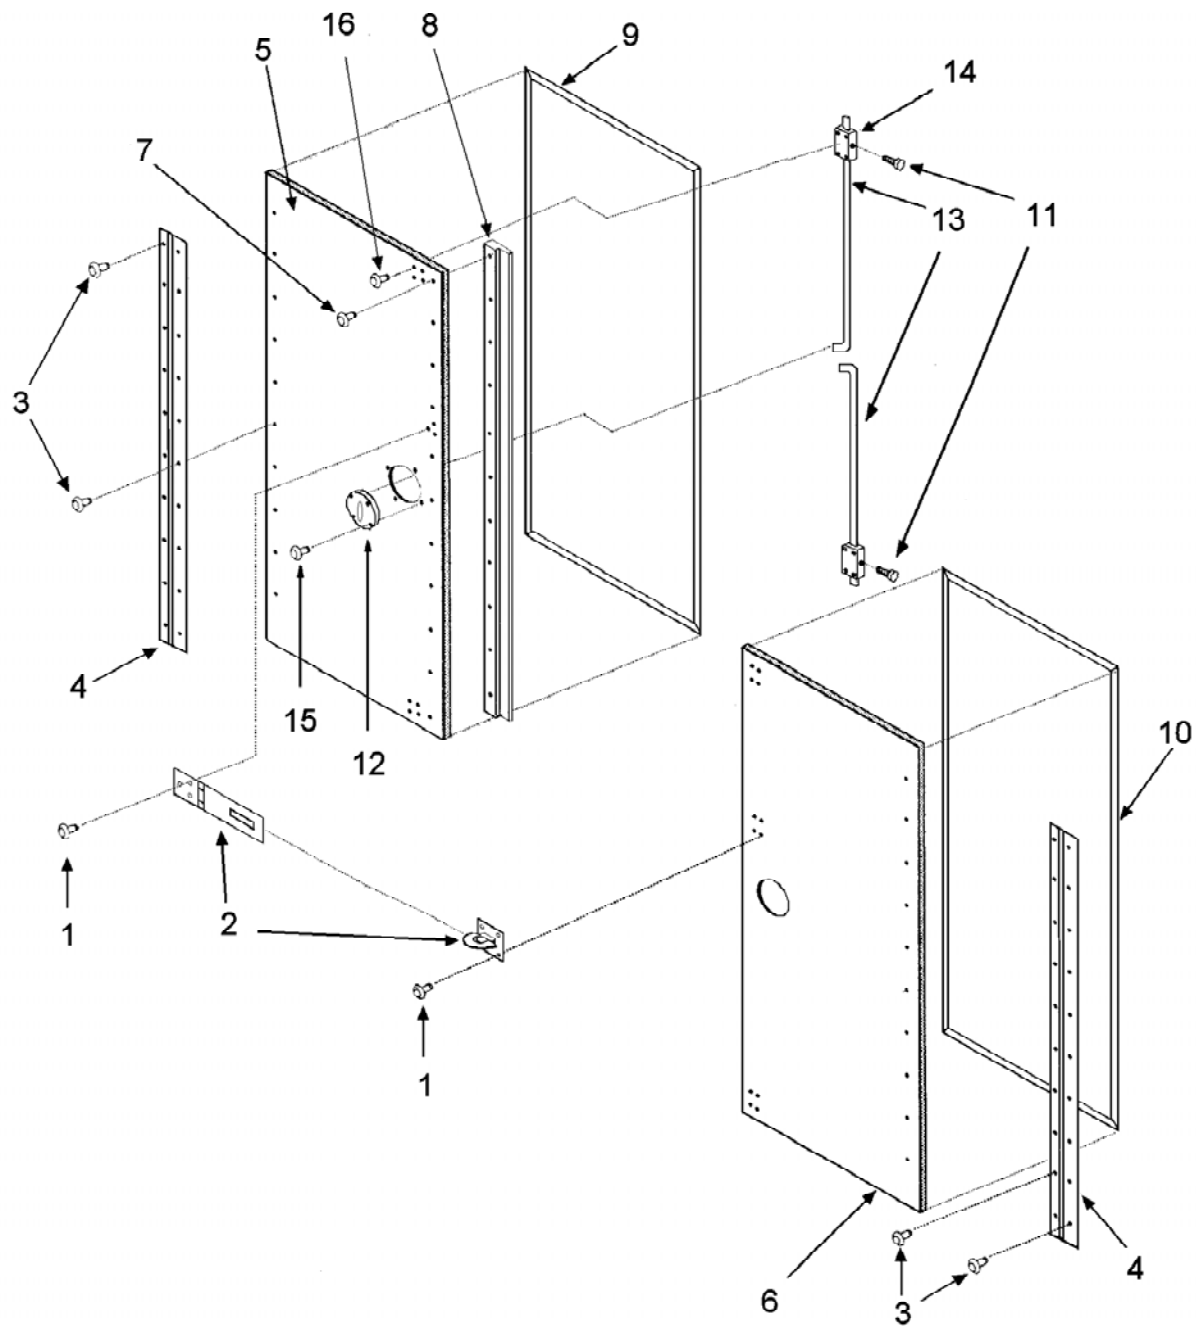

Figure 1. Back Door Assembly
1. Remove 3 rivets (1) and hasp (2) or 4 rivets (1) and staple (2). (Figure 1 on next page)
2. Remove 20 rivets (3), hinge (4) and door (5 or 6).
3. Remove 11 rivets (7) and door stop (8) from left door (5).
5. Loosen 2 locking bolts (11).
6. Turn D-ring lock handle (12), causing rods (13) to become disengaged from blocks (14).
7. Turn 2 rods (13) 1/4 turn and remove from D-ring lock (12).
8. Remove 4 rivets (15) and D-ring lock (12) with handle.
9. Remove 8 rivets (16) and 2 blocks (14).